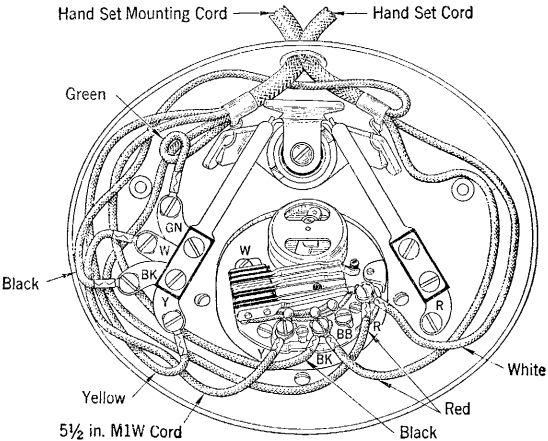

**Fig. 11—D1 Type Hand Set Mounting.**
1.05 The cording of sets having single contact 4- and 5-type dials should be in accordance with Figs. 11 to 28 inclusive. The same information, other than dial cording, applies to sets with twin contact 4- and 5-type dials as well as 6-type dials. Typical cording for these latter dials is shown in Figs. 29 and 30. The same general principles of cording should be followed in the case of sets having a different number of dial conductors. ↵